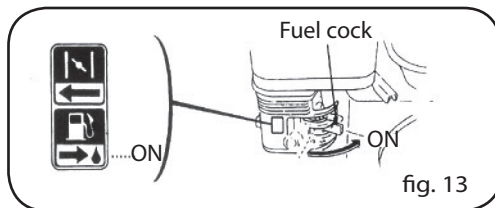

fig. 13
- Push the fuel cock to "ON" (Fig. 13).